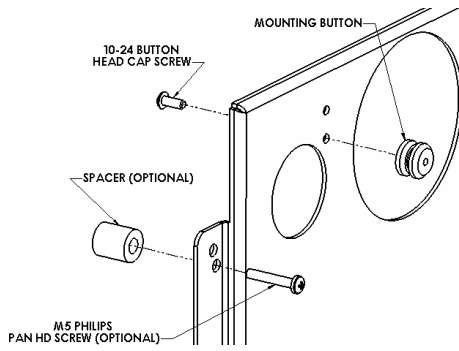
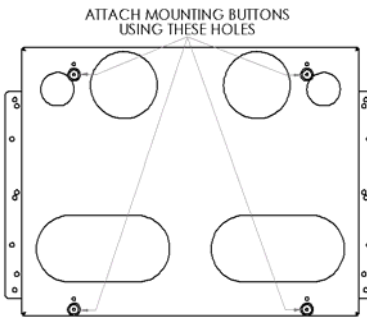

Figure 2
Figure 3
1. Using a 10-24 button head cap screw inserted from the back side of bracket, secure mounting button, to bracket (four places) (see Figure 2 & Figure 3).
6. Optional spacers and longer screws provided to allow for cable clearance if required (see Fig.2).